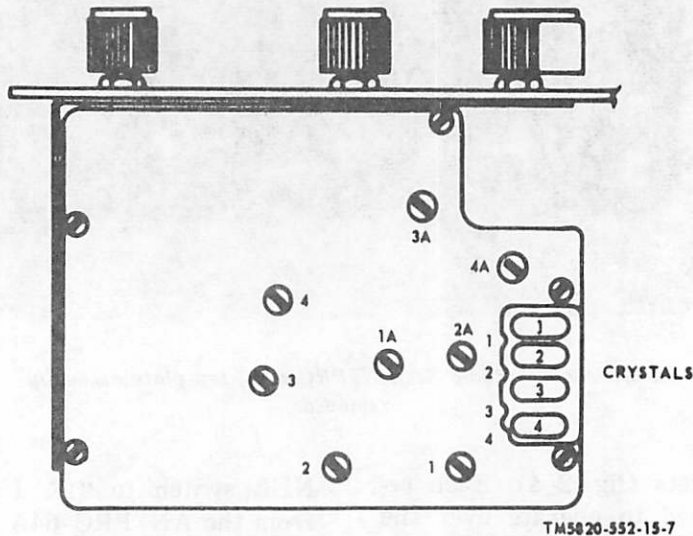

Figure 2-4. Receiver crystals, installation and alignment.
(fig. 2-4)
the receiver crystal sockets (fig. 2-4). Each receiver channel is designed to operate over the same restricted range of frequencies as the transmitter channels (para 2-5c). Note that each receiver crystal frequency should be 455 kHz higher than the radio frequency to be received. Note in figure 2-4 that the crystal sockets are marked with channel numbers.
d. Refer to figure 2-4. Set the receiver CHAN-